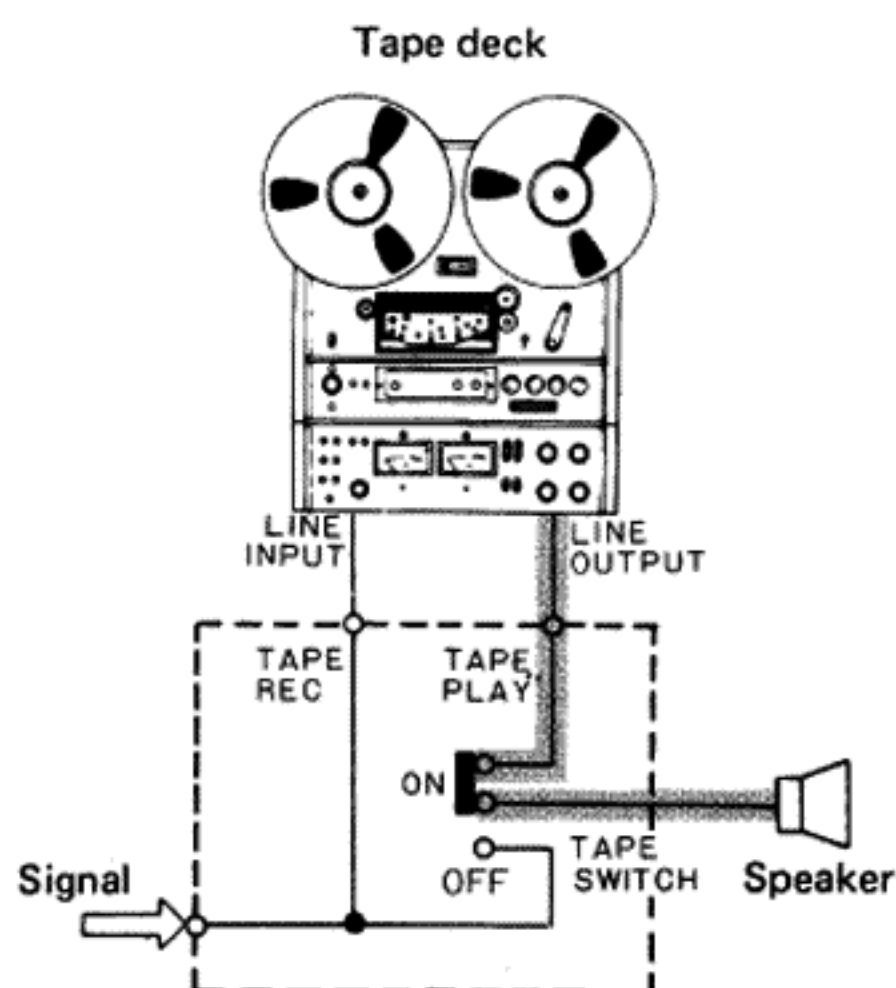

Fig. 7
1. Set the C-21's TAPE switch to ON (Fig. 7).